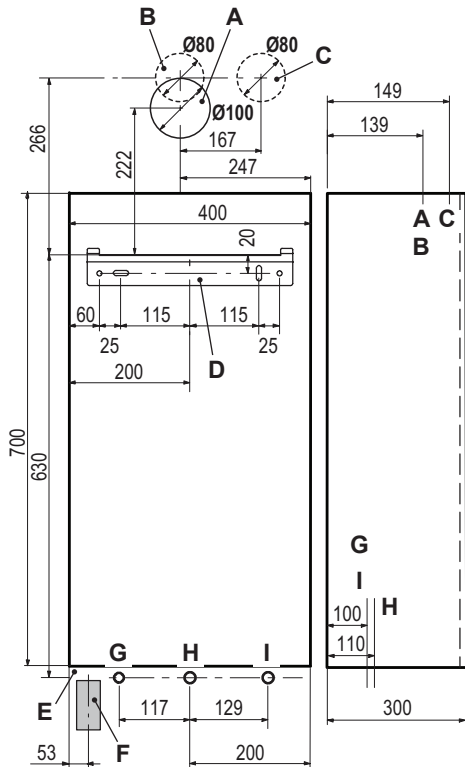

Fig. 6.2
- Fix the C.H. valves "K" to position "G" and "I" (Fig. 6.2) using the $\frac{3}{4}$ " gaskets.
- Fix the gas cock "L" to position "H" (Fig. 6.2), using the $\frac{3}{4}$ " gasket.